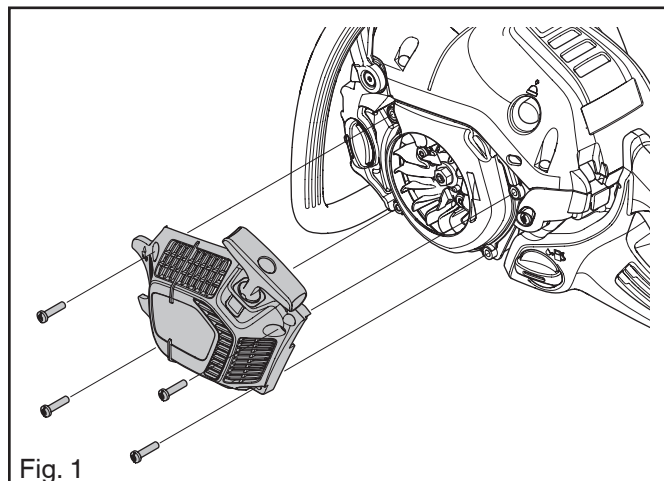

Fig. 1
1. Loosen the four screws holding the starter to the crankcase. Lift the starter off the chainsaw. See Figure 1.